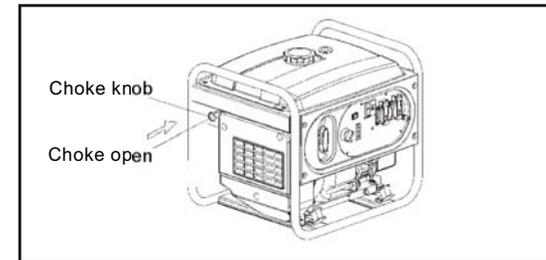

Fig.7 Choke open
7.5 SPARK PLUG SERVICE (See Fig 7)